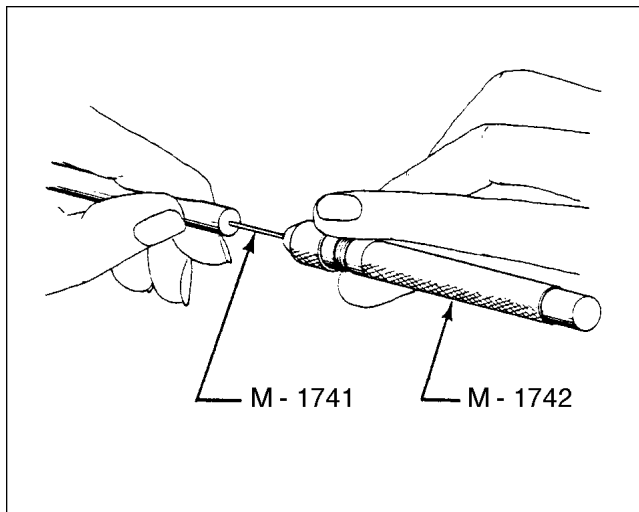

Figure 8-24. Removing Silicone Rubber from Wire
f. Using M-1742 Pin Vise, insert M-1741 Drill (#72 drill). Drill out the silicone rubber from inside of coiled conductor approximately 0.375 inch deep. Refer to Figure 8-24.